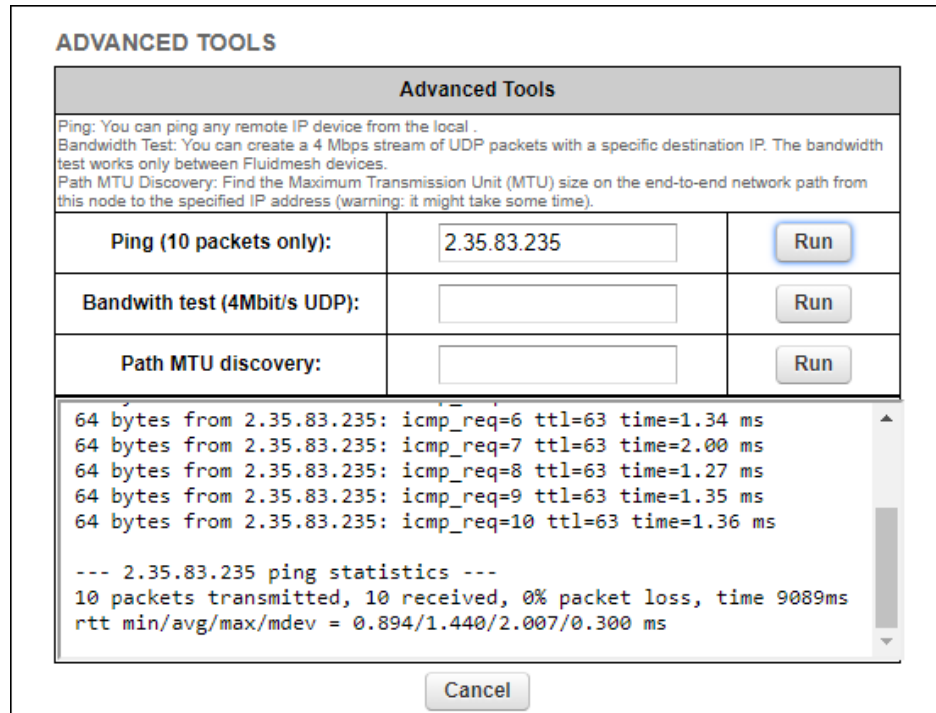

Figure 31. Advanced Tools window (Ping test tool)
2. Enter the IP address of the other unit in the **Ping (10 packets only)** field (Figure 31 (page 102)).